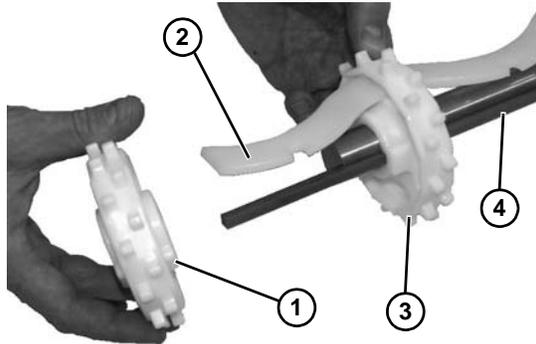

Figure 58
- Slide entire sprocket assembly slightly outward, and remove the first sprocket (**Figure 58, item 1**) off the drive spindle and alignment bar. (**Figure 58, item 2**).
- Remove remaining sprockets (**Figure 58, item 3**) off the alignment bar as you slide entire assembly off the drive spindle (**Figure 58, item 4**).